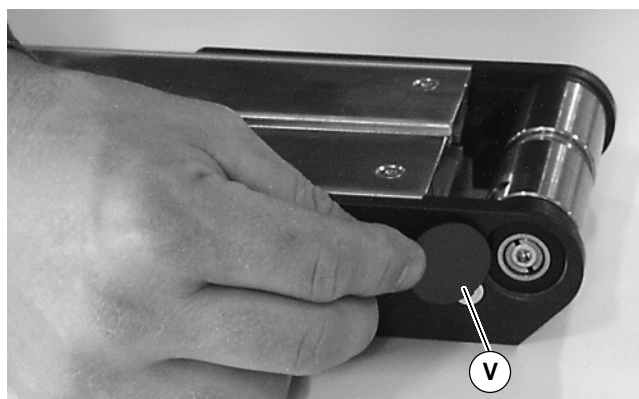

Figure 22
10. Install bearing covers (V of Figure 22) into head plate.